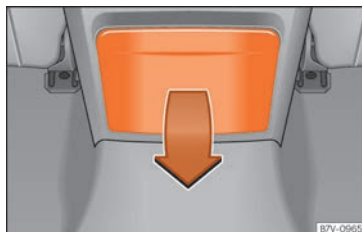

Fig. 194 Centre console, rear section: extend the drinks holder.
- To open, move the drink holder downwards in the direction of the arrow »» **Fig. 194.**